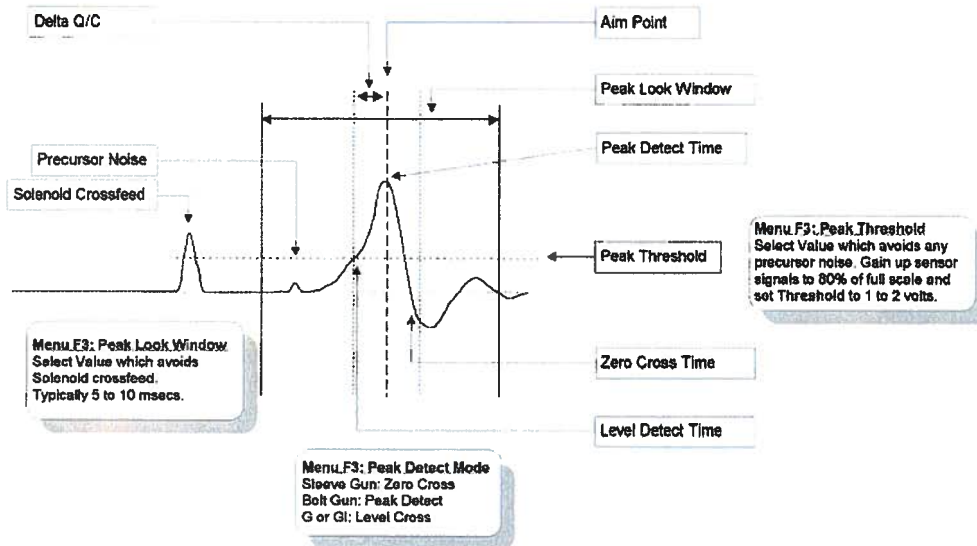

Figure 5
1. The sensor waveform is processed after the shot to determine when the gun fired. This involves the follow steps (see Figure 5):